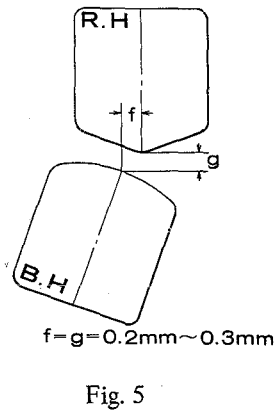

Fig. 5
- d) Clearance of the Bias Head (See Fig. 5)